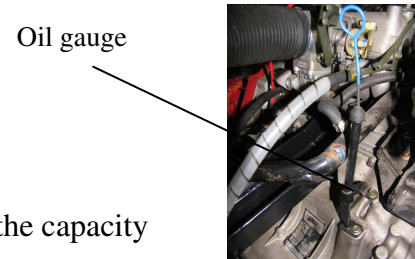

Fig 18
1). Lubricating oil check (Fig 18)